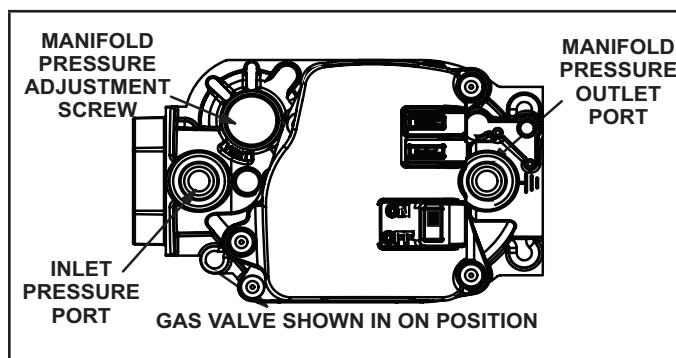

Figure 55
Gas Valve Operation (Figure 55)
- 6 - Move gas valve switch to OFF. See Figure 55.
- 8 - Move gas valve switch to ON. See Figure 55.